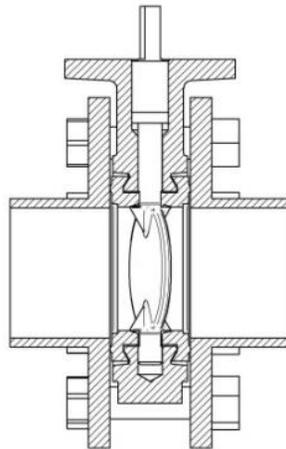

FIGURE 2. VALVE IN THE PARTIALLY OPEN POSITION
4. To prevent damage to the disc sealing edge during installation, position the disc in the "partially open" position (Figure 2) so that the disc is still contained within the valve body.